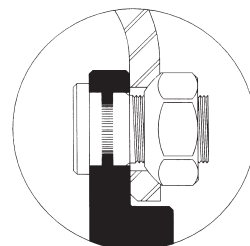

Figure 19
- 10 Hole, 13³/₁₆" Bolt Circle (HD) Mounting**
Duplex wheels with this mounting pattern have a heavy duty (HD) mounting. This mounting has different bolt hole chamfers (1³/₁₆") and requires special nuts with this same chamfer (1³/₁₆"). These nuts are shown in Figure 19. Use the same tightening procedure described on page 40 (Figure 8), but the final torque value should be 750 to 900 ft.-lbs. (dry).